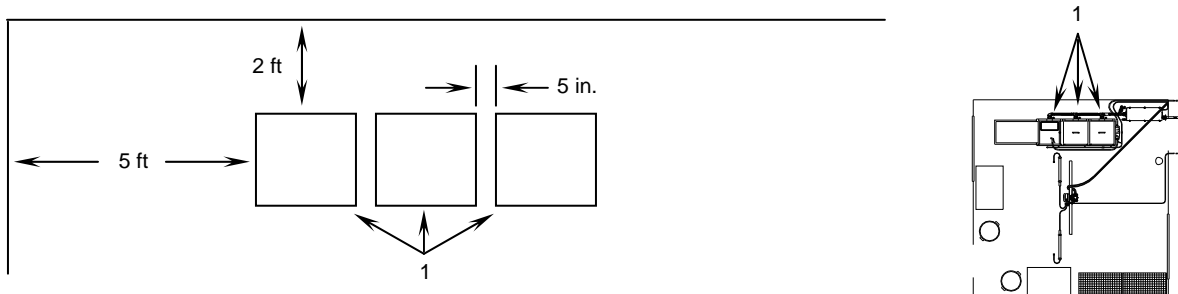

Figure 10. Base Rack Placement.
- a. Place the three base racks (**Figure 10, Item 1**) in the approximate final sink position. The left base rack should be about 5 feet from the side tent wall. All three base racks should be about 2 feet from the back tent wall and about 5 inches apart from each other.